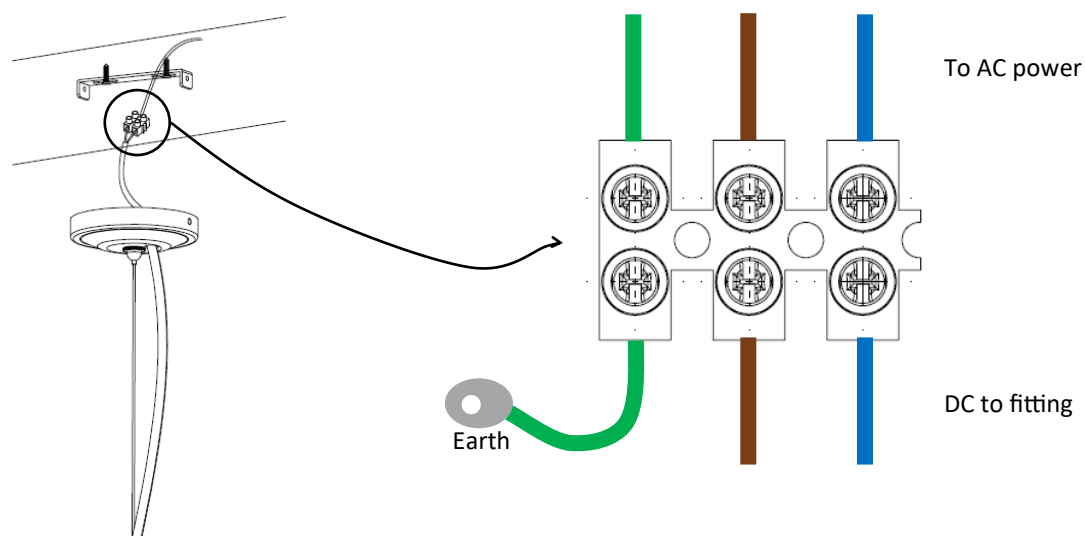

FIG. 2
- Match wire colours by connecting to the connector block as shown in Fig. 2. Do not alter the earth lug to the fitting.